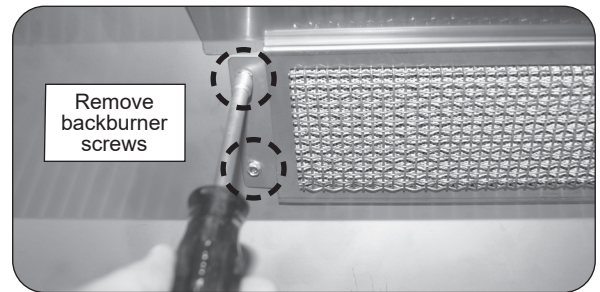

Fig. 45-3 Remove backburner mounting screws
2. Remove the backburner mounting screws (1/4" hex) located at the left end of the backburner assembly (see Fig. 45-3).